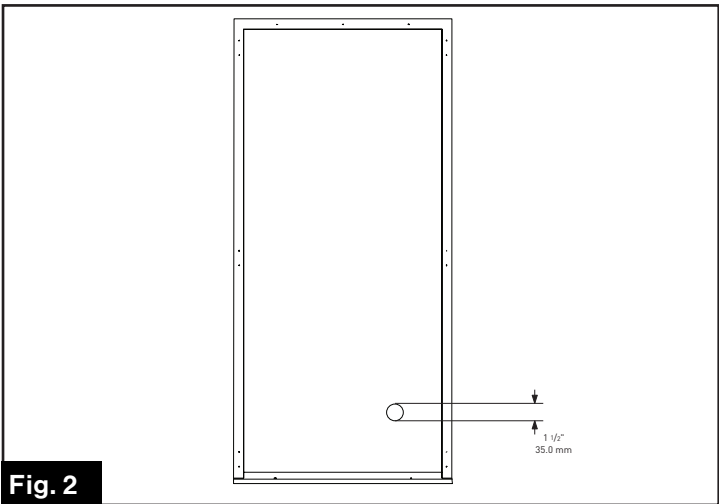

Fig. 2
3. Drill a 1½" hole on the vehicle wall using a hole saw. (Fig. 2) Extend the power cord from the to cutting hole and connect to the refrigerator (see "Electrical Connection" section for detail) **CAUTION:** Ensure there are no electrical cables, gas lines, pipes or other important parts behind the wall where the drill holes will be.